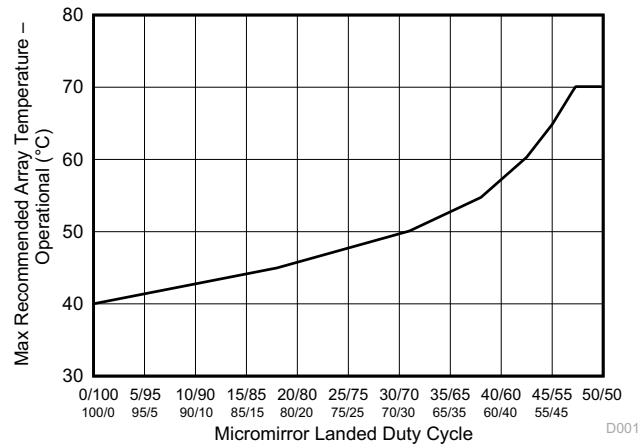

Figure 6-1. Maximum Recommended Array Temperature – Derating Curve
- (12) Per Figure 6-1, the maximum operational array temperature should be derated based on the micromirror landed duty cycle that the DMD experiences in the end application. Refer to Section 7.7 for a definition of micromirror landed duty cycle.
- (13) Long-term is defined as the usable life of the device.
- (14) Short-term is the total cumulative time over the useful life of the device.
- (15) The maximum marginal ray angle of the incoming illumination light at any point in the micromirror array, including at the pond of micromirrors (POM), should not exceed 55 degrees from the normal to the device array plane. The device window aperture has not necessarily been designed to allow incoming light at higher maximum angles to pass to the micromirrors, and the device performance has not been tested nor qualified at angles exceeding this. Illumination light exceeding this angle outside the micromirror array (including POM) will contribute to thermal limitations described in this document and may negatively affect lifetime.